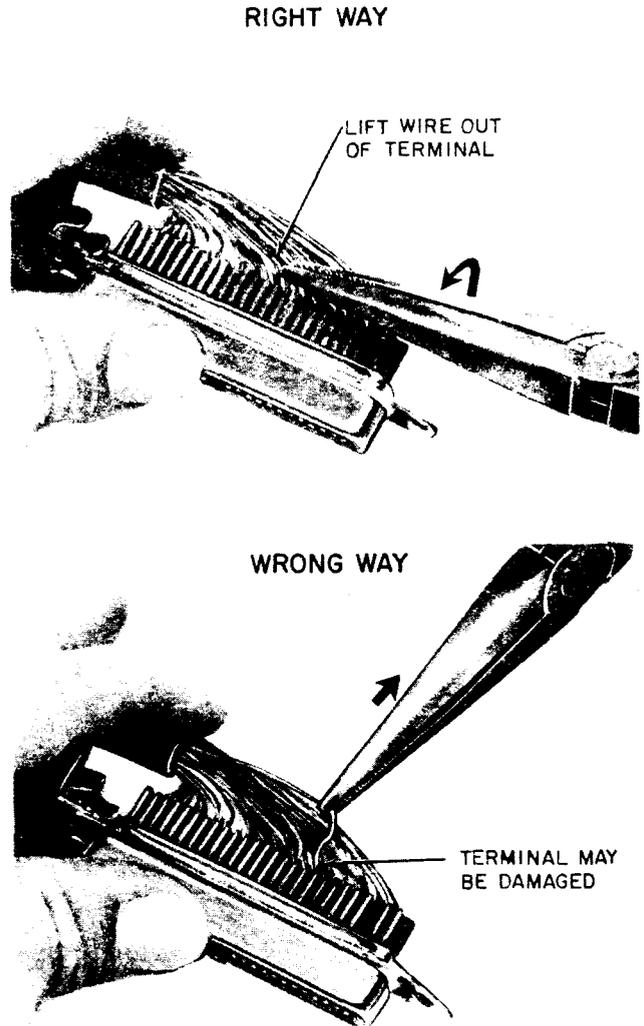

Fig. 14—Removing Terminated Wire
2.48 **Warning:** When removing wire, do not pull the wire parallel to the slot as this may damage the terminal so that it cannot be reused. When wiring changes are required in the field on 153AM2, BM2, AM3, or BM3 adapters, remove wire from terminal by lifting with a rolling motion, using long-nose pliers as shown in Fig. 14. Cut off the used portion of the wire and reterminate using a KS-21872 hand-connecting tool as follows: